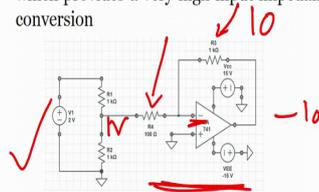

Figure 2
- If a gain amplifier of inverting amplifier of gain 10 is designed (shown in Figure 2 below) and connected to the output of the voltage divider circuit, ideally it should give an output of - 10 V (gain*input voltage = - 10*1 V = - 10 V)